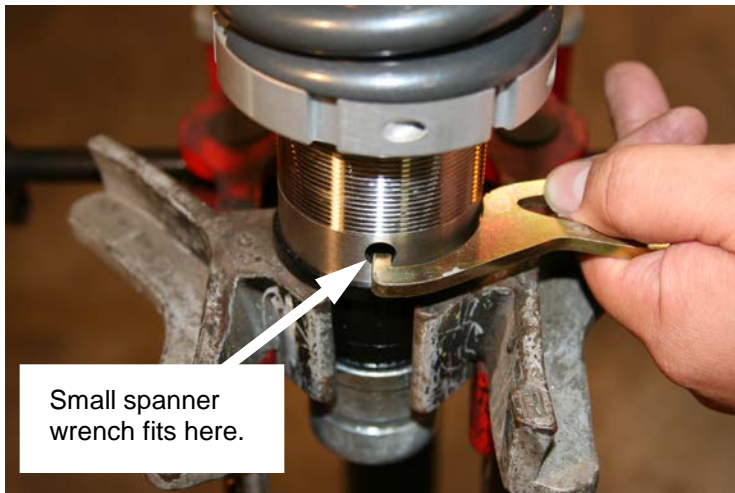
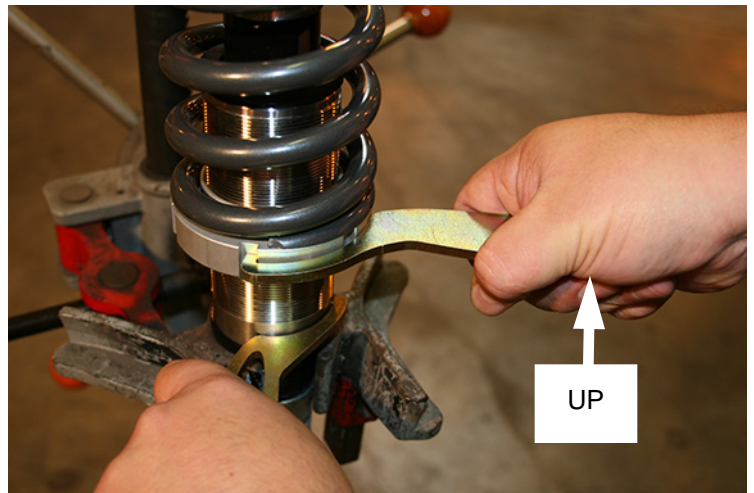

Figure 5
Figure 6
8. Raise the lower spring collar up to the spring, until the spring has approximately 1/8" free play between the upper and lower perches, then thread upward (*tighten*) the lower perch 8 to 10 full turns to load the spring. There are two spanner wrenches in the kit. The smaller wrench is used to hold the threaded sleeve (Figure 5) and keep it from turning. The larger wrench is used to turn the spring collar. (Figure 6)
19. Raise the lower spring collar up to the spring, until the spring has approximately 1/8" free play between the upper and lower perches, then thread upward (*tighten*) the lower perch 8 to 10 full turns to load the spring. There are two spanner wrenches in the kit. The smaller wrench is used to hold the threaded sleeve (Figure 5) and keep it from turning. The larger wrench is used to turn the spring collar. (Figure 6)
B) If you are having difficulty ADJUSTING the vehicle HEIGHT, review the use of the two spanners (included) as shown in Figure 6. Also SPRAY a light application of Boeshield T-9 © to lubricate the threaded sleeves and perch nuts. We suggest the use of this excellent dry lubricant/protectant product.